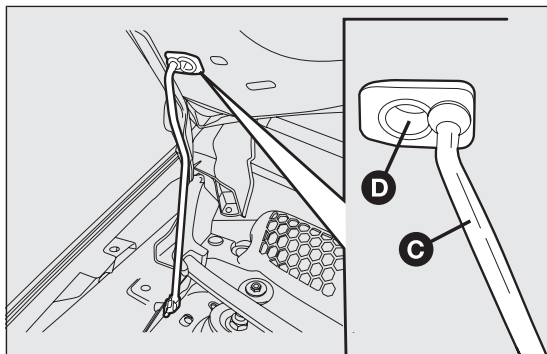

fig. 100
- lift the bonnet and, at the same time, release the bonnet stay C fig. 100 from its locking device, then insert the end of the stay into the housing D.
- hold the bonnet up with one hand and with the other remove the stay C fig. 100 from the housing D and fit it back in its locking device;